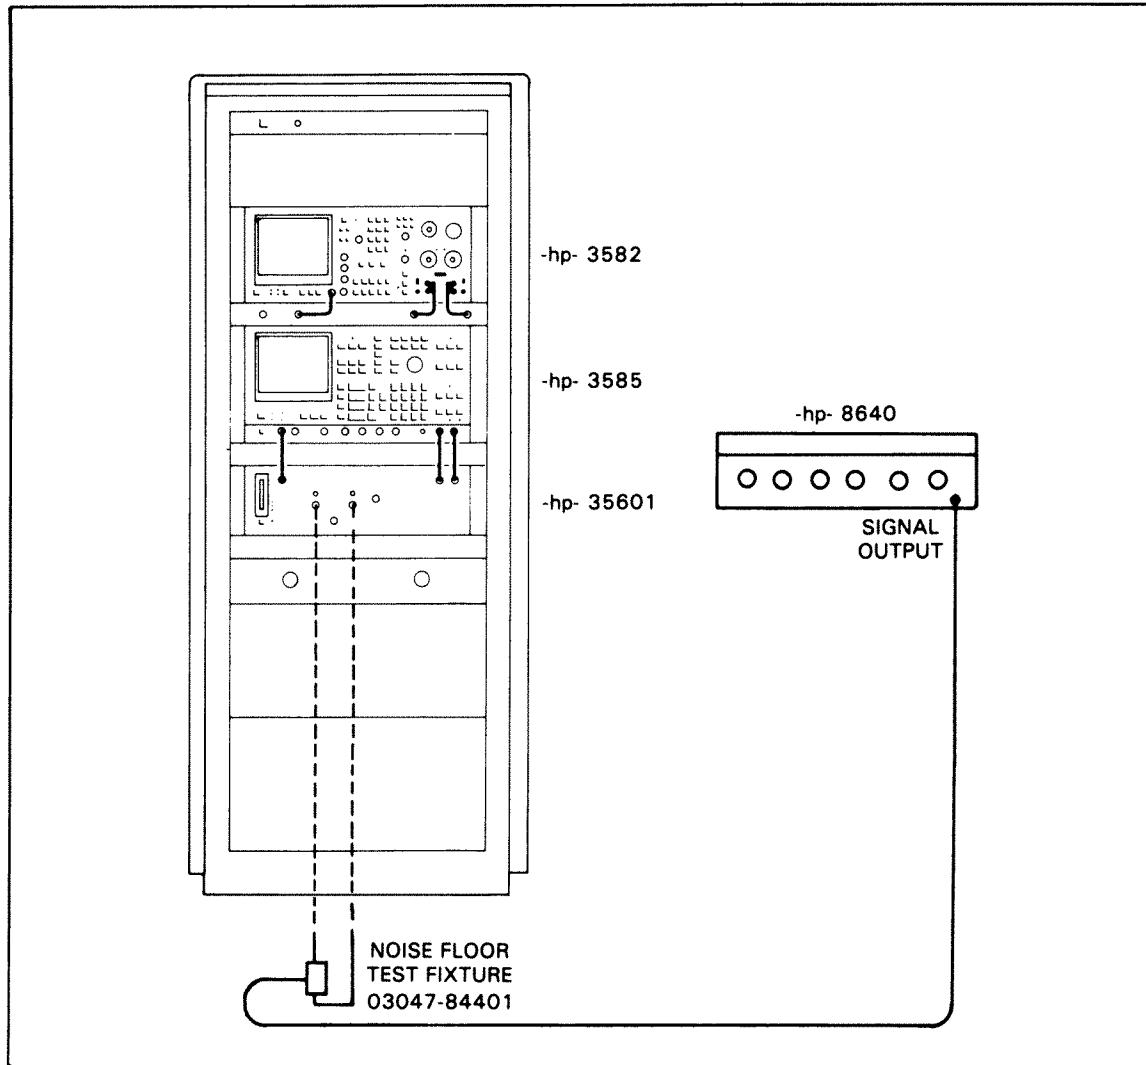

Figure 7-25. Noise Floor/Spur Equipment Set-up
- Set-up equipment as shown in Figure 7-25. Noise Floor Equipment Set-up.